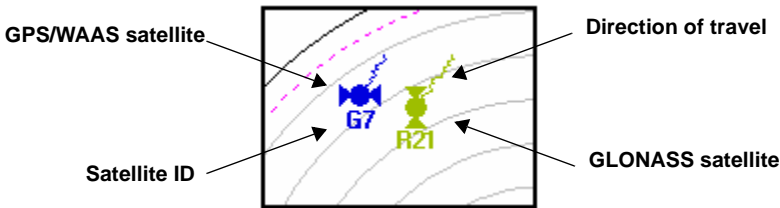

Figure 3-50. GPS and GLONASS Satellite Icons
- GPS and GLONASS satellite icons: displays the type of satellite begin tracked, the direction of travel for the satellite, and the satellite’s ID (Figure 3-50 on page 3-92). The color of the satellite icon corresponds to the colored bars in the *signal-to-noise ratio histogram*.